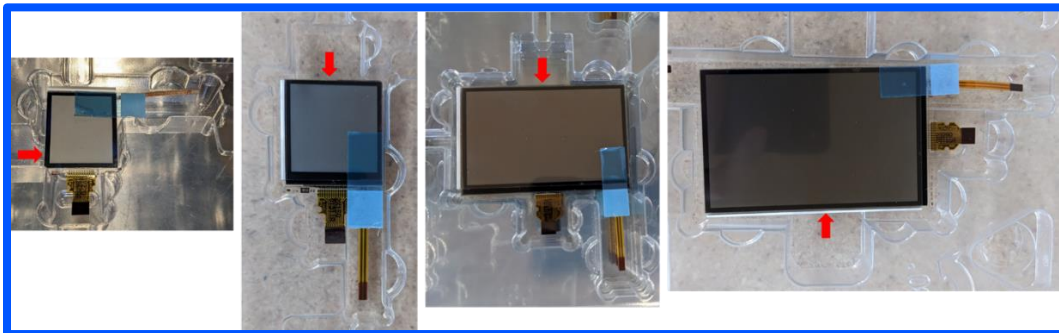

Figure 4. Image of typical packaging tray (1.26", 1.8", 2.7", 3.2") showing finger slot location.
- a. Lift Azumo LCD 2.0 product at finger slot (refer to Figure 4).